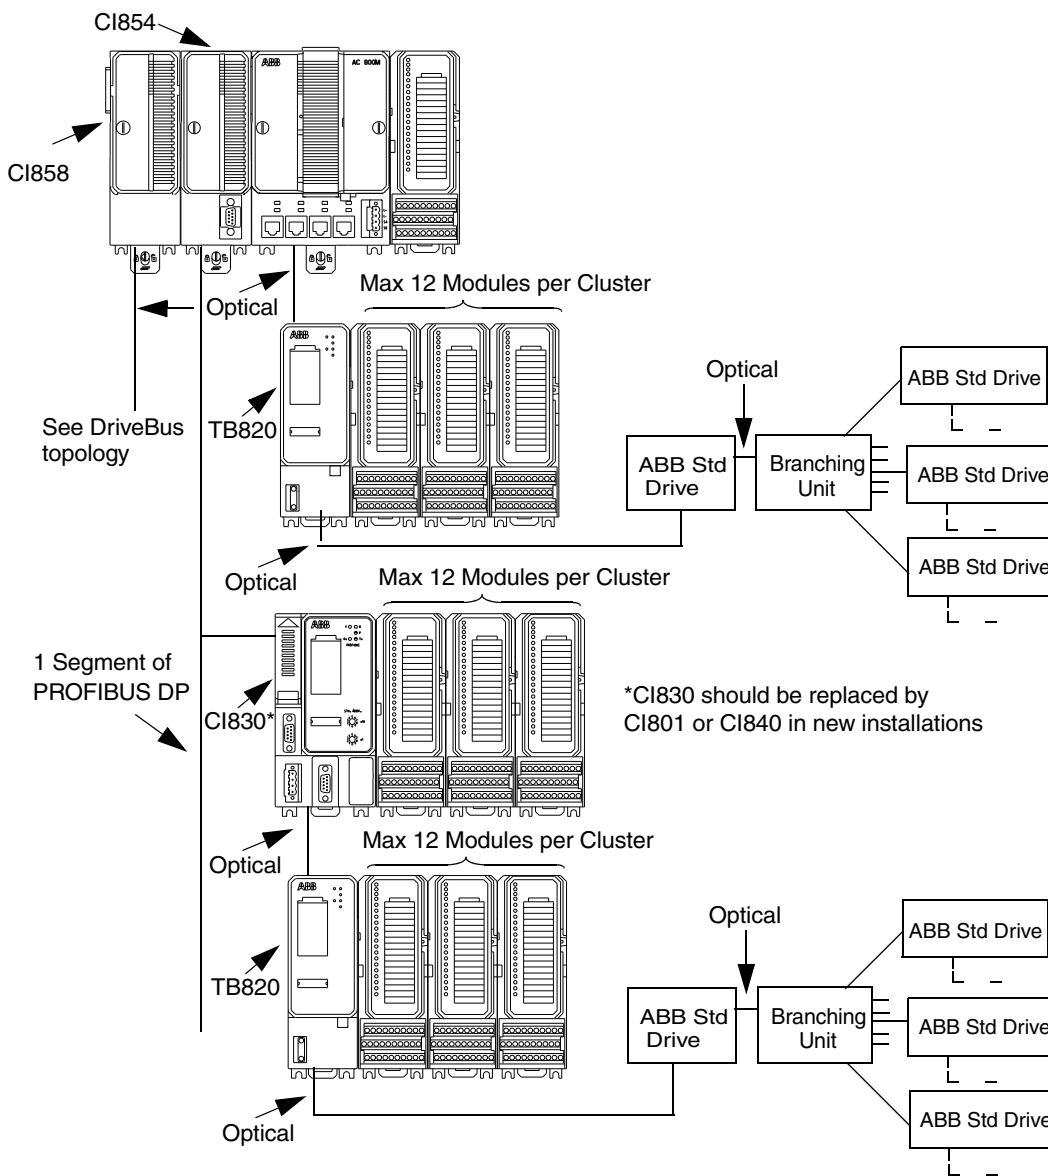
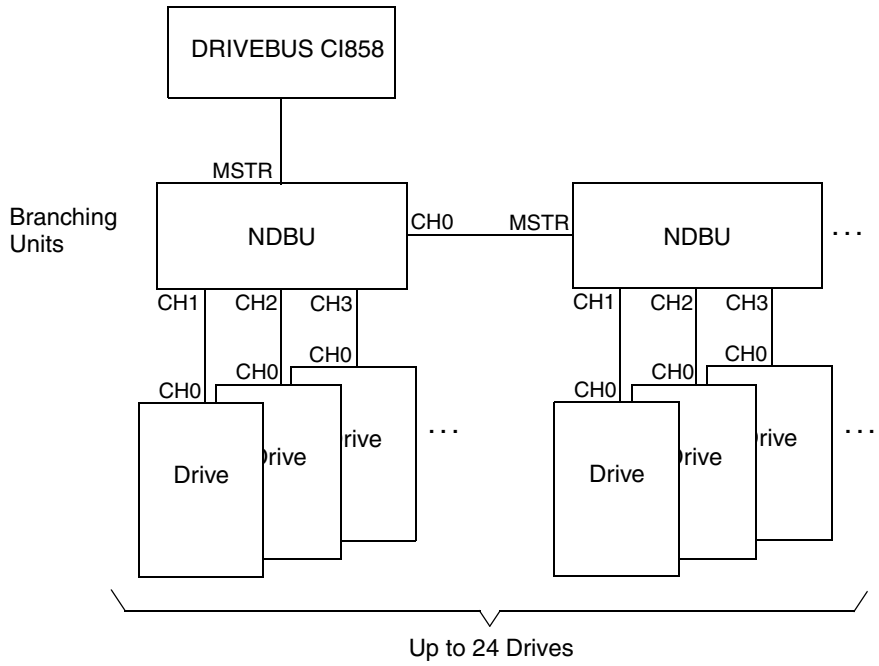

Figure 12. Example of Connection of ABB Drives in Single CPU Configuration
Figure 13. DriveBus Topology
In single CPU configuration, ABB Drives can be connected to the processor unit via the optical ModuleBus. See Figure 12 on page 47. The number of ABB Drives which can be connected to the optical ModuleBus, can be described by the following equation:
In single and redundant CPU configuration, ABB Drives can be connected via PROFIBUS DP and CI801. See Figure 12 on page 47. Only Standard Drives can be connected to CI801. Fourteen (14) Standard Drives can be connected to each CI801 if there are no I/O units connected. For the number of Drives that can be connected to the same CI801, when both I/O units (TB820) and Standard Drives are connected, refer to documentation about FCI for PROFIBUS DP.
For information about Branching Unit (See Figure 12 on page 47) see ABB Drive System documentation.
ABB drives can be connected to the AC 800M via the CI858 unit, see Figure 12 on page 47 and Figure 13 on page 48. The drive interface can be used for controlling up to 24 drives or inverter units.
Connection of multiple drives requires the use of a branching unit, which enables the construction of a logical bus with physical star topology, see Figure 13 on page 48. The branching units can be chained.
For information about Branching Unit (Figure 13 on page 48) see ABB Drive System documentation.